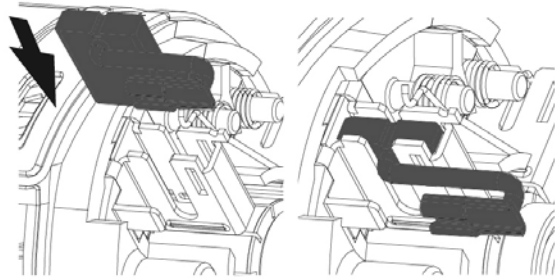

Fig.6
(6). Put back new carbon brushes into right and left sides of brush holders. ( See Fig.6)